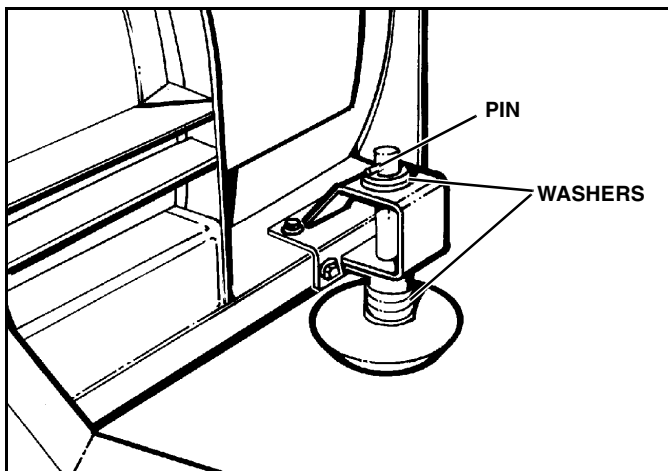

Figure 2-17
14. Adjust each disk shoe assembly by removing disk shoe mounting pin and adding or subtracting washers on the top or bottom of the disk shoe mounting bracket as required according to measurements taken in step #11 (See Figure 2-17).